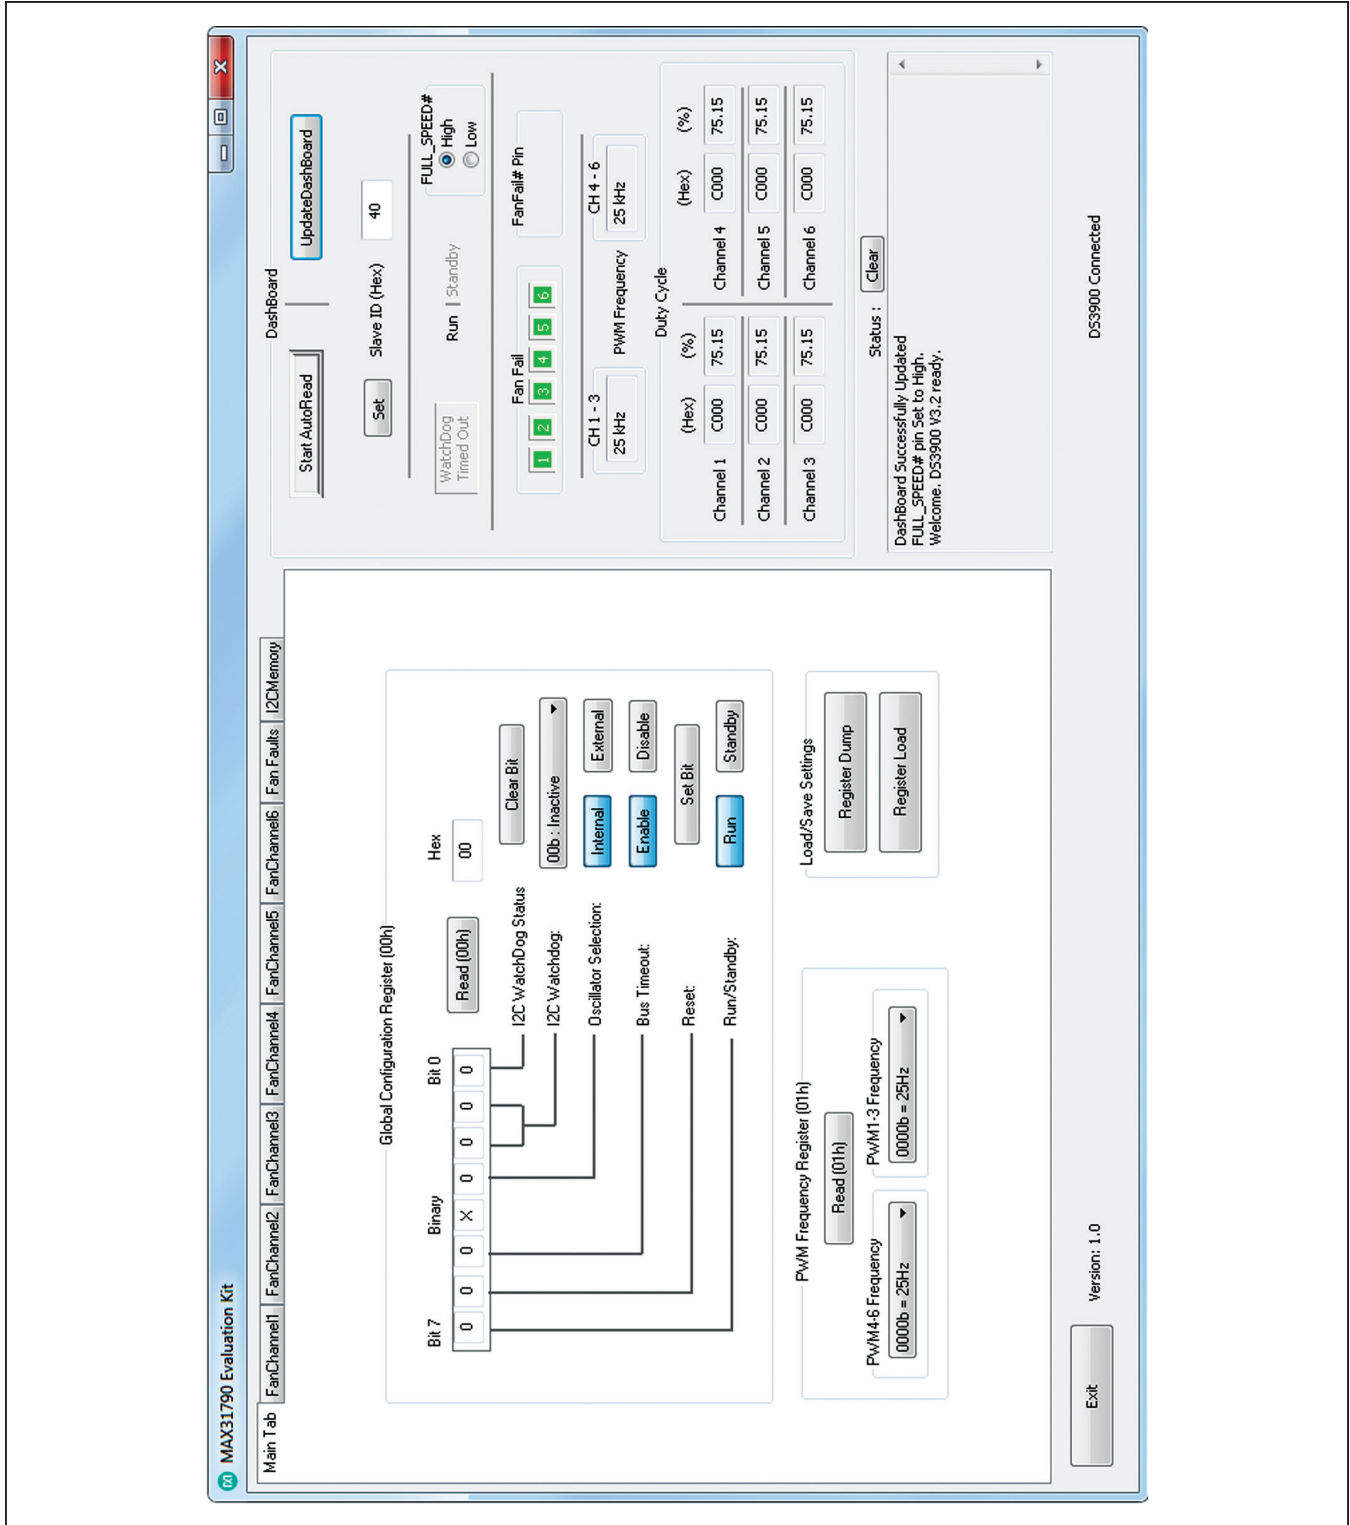

Figure 1. MAX31790 EV Kit GUI (Main Tab)
- 13) To verify communication to the device, with the default jumper/shunt settings described in steps 2–4, press the **UpdateDashboard** button on the top right corner and verify the **PWM Frequency** updates to 25kHz and all **Duty Cycle values** update to 75.15%, as shown in Figure 1. This completes the EV kit setup. The hardware and software are ready to begin evaluating the device. If any issues arise, see the *Troubleshooting* section.
- **Main Tab** (Figure 1):